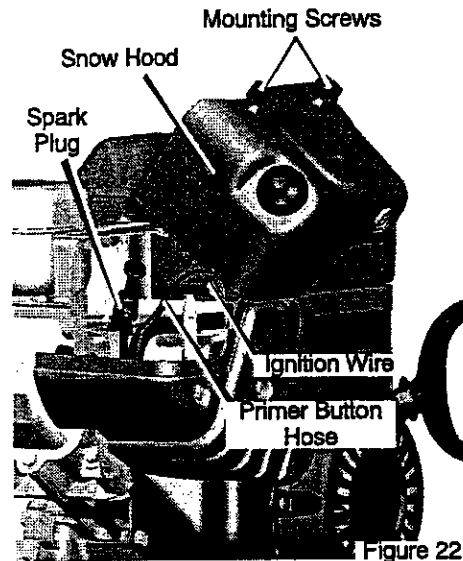

Figure 22
3. Remove the mounting screws (see Figure 22).
7. Mount the snow hood to the engine and secure with the mounting screws (see Figure 22).